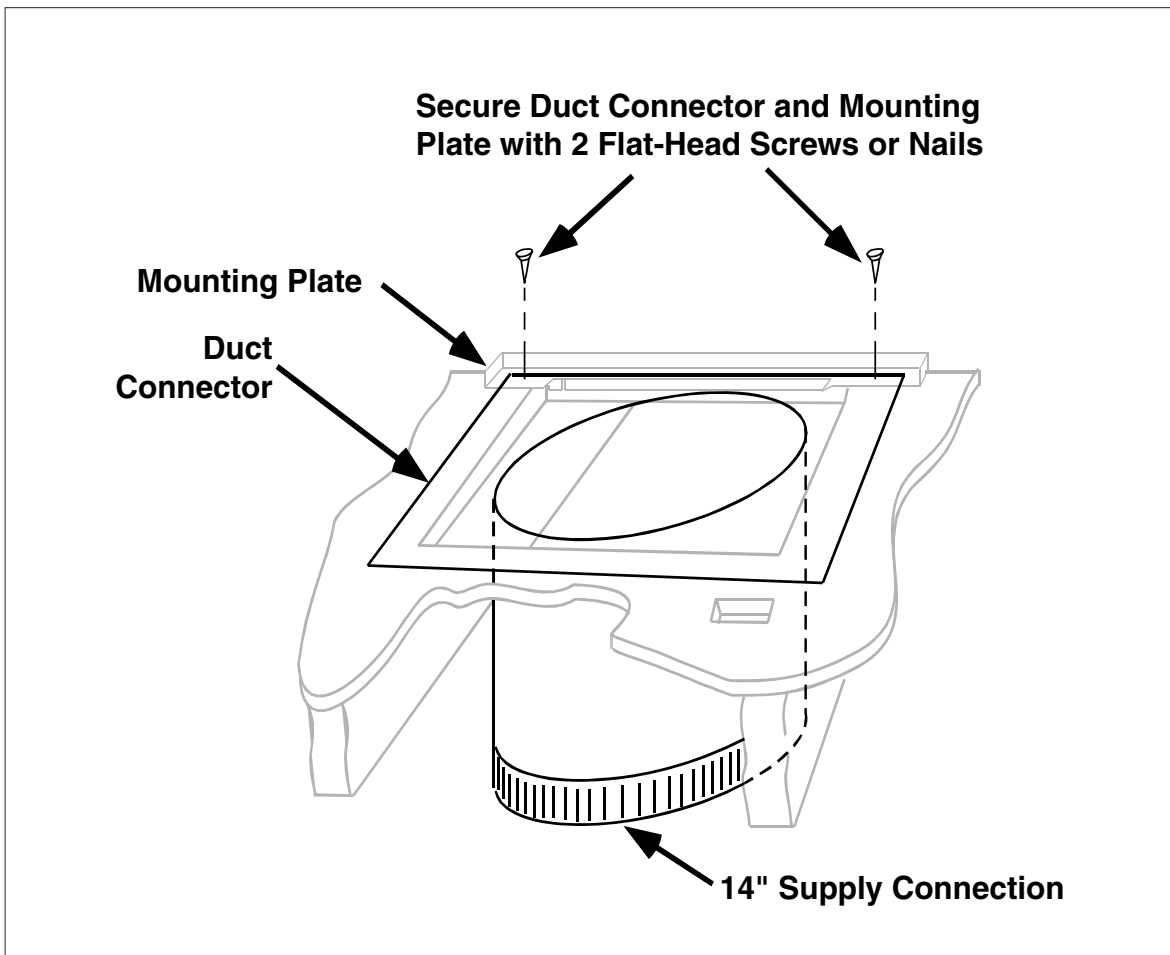

Figure 9. Platinum Duct Connector
1. Place duct connector through opening in floor. See Figure 9.